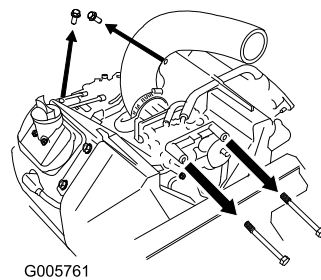

Figure 21
4. Remove the 2 bolts from the back of the engine (Figure 21).
5. Remove the 2 long bolts that run through the carburetor (Figure 21).